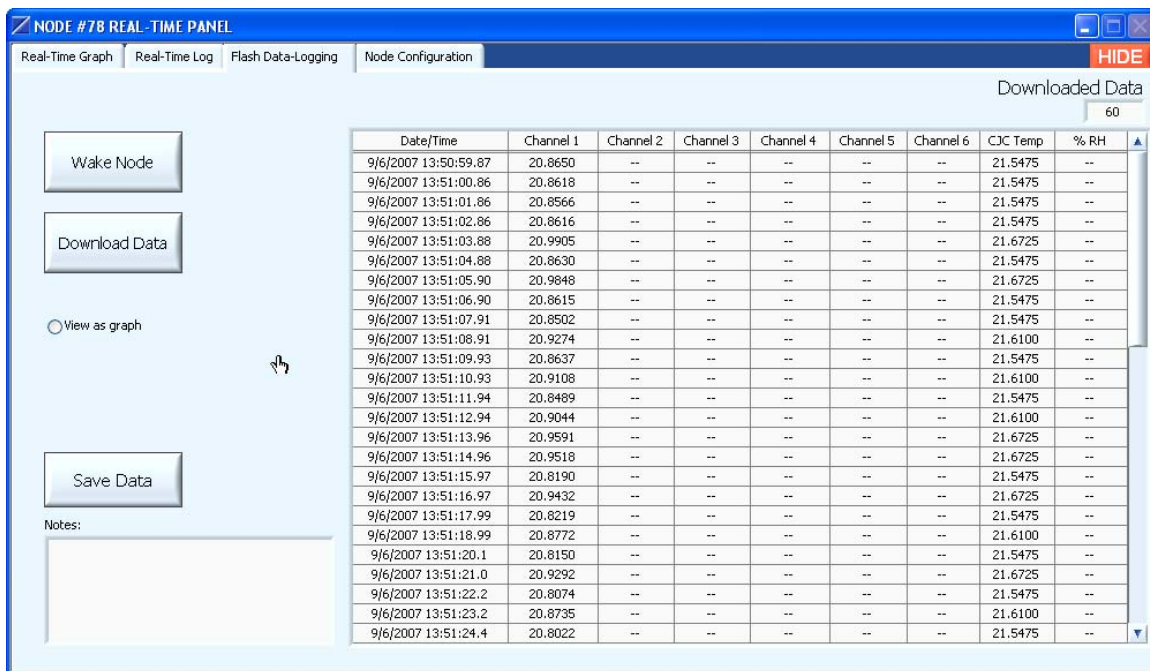

Figure 10
- Click the Download Data button and the TC-Link[®] will download the data stored in its flash memory and display it on the grid. A progress bar will signal progress and completion. See Figure 10.